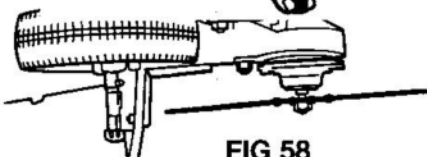

FIG 58
4. With a soft punch, tap hex end blade shaft as in Fig 58 until cover and gear assembly pops out of body housing.